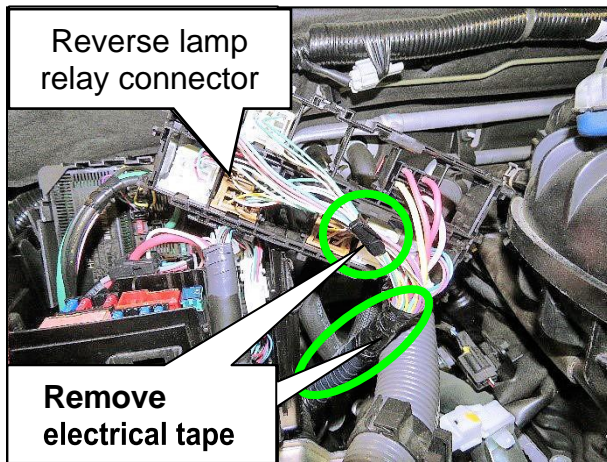
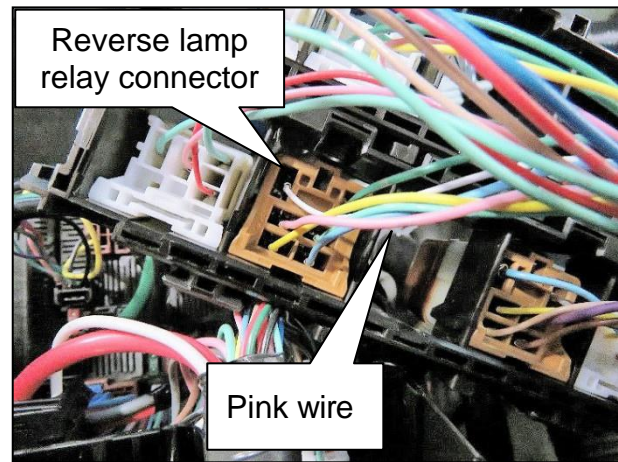

Figure 14
Figure 15
11. Turn the relay box over, remove the electrical tape from the relay box wire harness (Figure 14), and locate the pink wire from the reverse lamp relay connector (Figure 15).